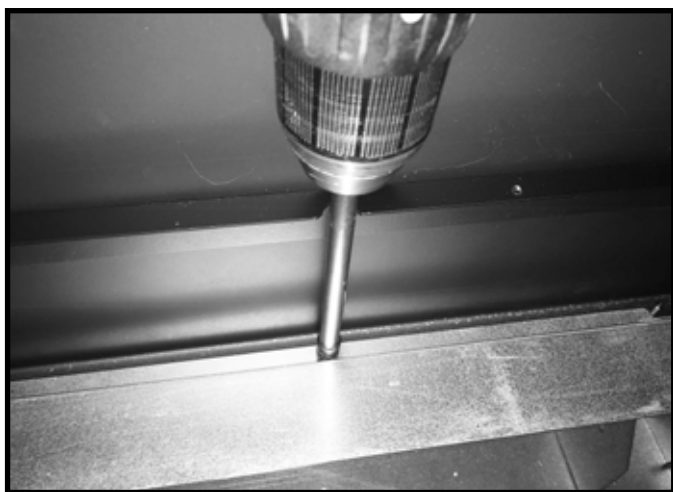

Figure 2 Remove Screws on Bottom Glass
13. Remove the eight screws that secure the bottom glass assembly. Remove the bottom glass. See Figure 2. Handle with care.